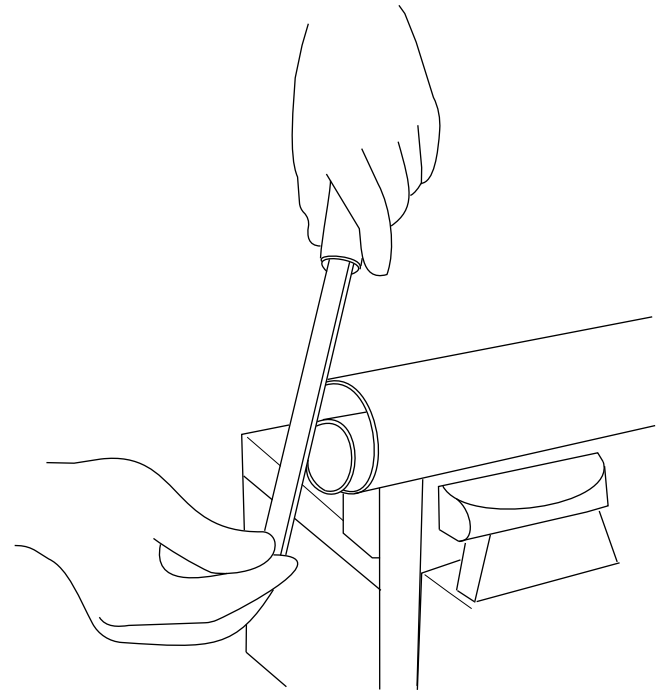

**Figure 14**
- 7. Remove and cut each section at the mark (Figure 14).